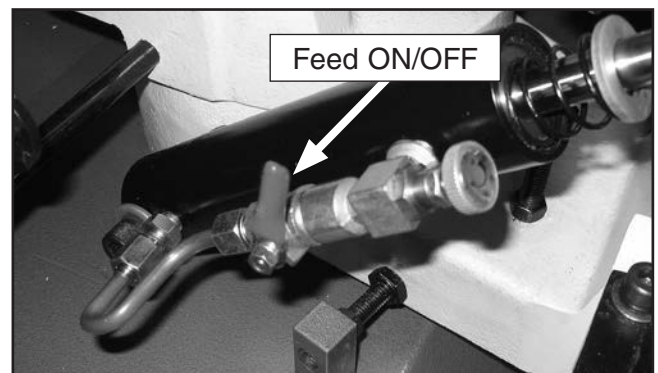

Figure 16. Feed ON/OFF Valve.
1. Raise the bow and lock it in place by closing the feed ON/OFF valve (**Figure 16**).